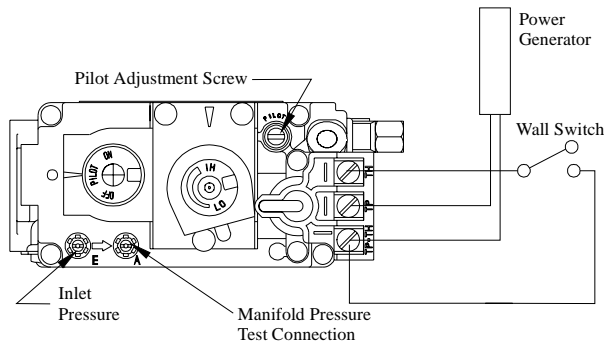

Figure 12. Sit Nova 820 gas valve.
1. Locate Pilot Adjustment Screw. (See figure 12.)
Pilot won't ignite	Disconnect remote wires and try to light pilot. If pilot now works, remote connections are faulty. Check wiring diagram figure 12.
Main burner will not light	1. Check wiring (see figure 12). 2. Check wall switch for proper connection.